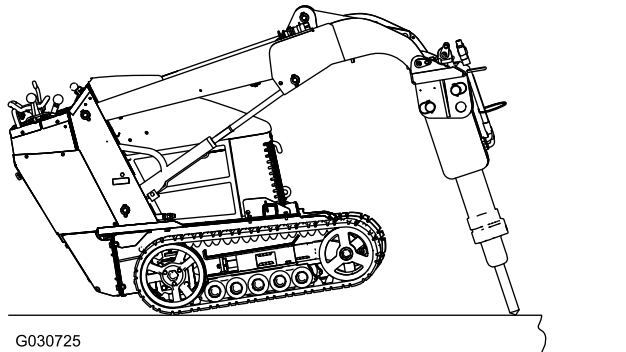

Figure 4
4. Lower the loader arms until the holes in the breaker align with the upper holes in the mount (Figure 4).
- Place the bit within 15 to 46 cm (6 to 18 inches) of the edge of the material to be broken, and angle the breaker slightly toward the edge (Figure 4).
unit raises off the ground a few inches (Figure 4). Maintain this pressure as the bit works its way into the material being broken.